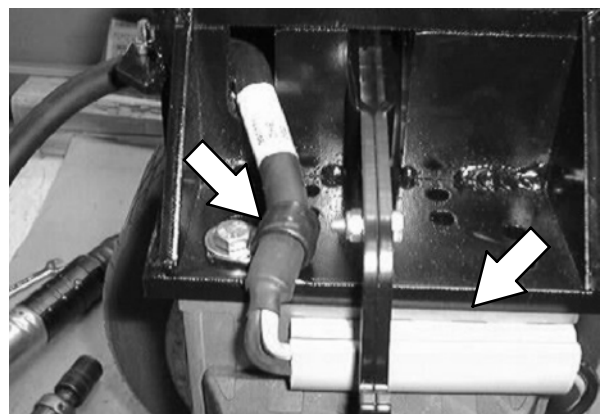

FIG. 7
7. Remove the cable clamp and pull the cable out from the duct sleeve. Set aside all loose parts. Refer to Fig. 7.